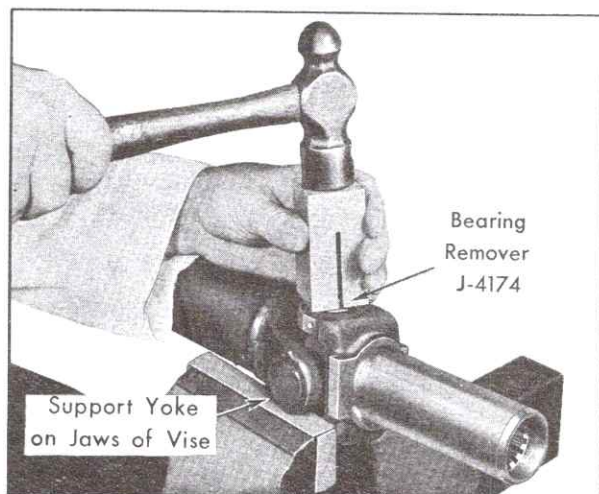

Fig. 4-23 Installing Bearing Remover Tool
4. Support yoke or bearing trunnion on vise jaws, position Bearing Remove, J-4174, over end of bearing cup, and pound on remover tool with a hammer until bearing is driven out of yoke and into remover tool about 1/2 inch, Fig. 4-23.